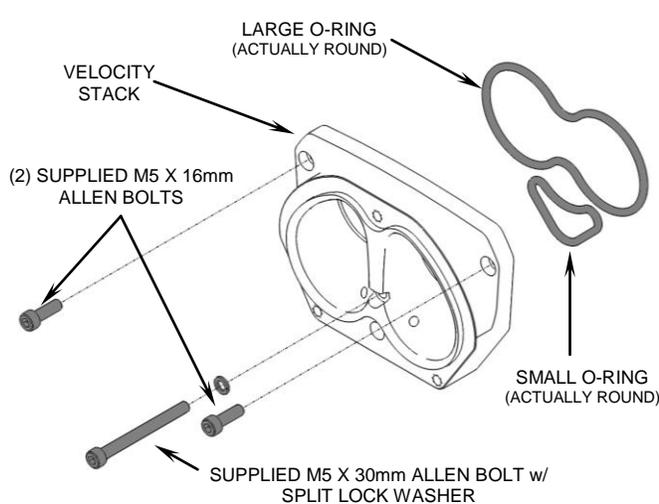

FIGURE 2
4. Bolt the velocity stack to the throttle body using the (2) supplied M5 x 16mm allen bolts and the (1) supplied M5 x 30mm allen bolt w/ split lock washer. Fully tighten. See Figure 2.